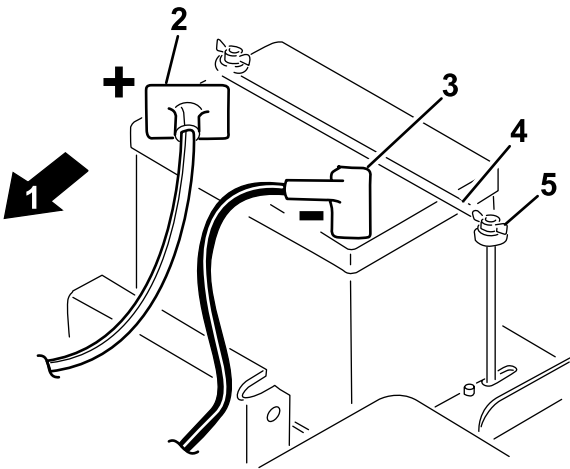

Figure 3
1. Mount the battery behind the seat with the battery terminals toward the front of the machine (Figure 3).
the battery (Figure 3). Secure it with a carriage bolt and nut.
5. Install the battery clamp and washers and secure them with wing nuts (Figure 3).